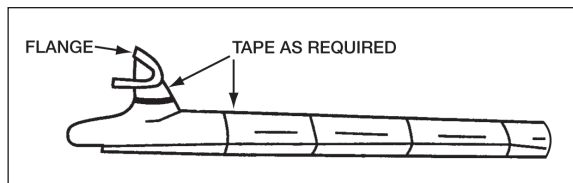

Figure 5
16. Fold new bladder lengthwise and tape at necessary intervals (Figure 5).